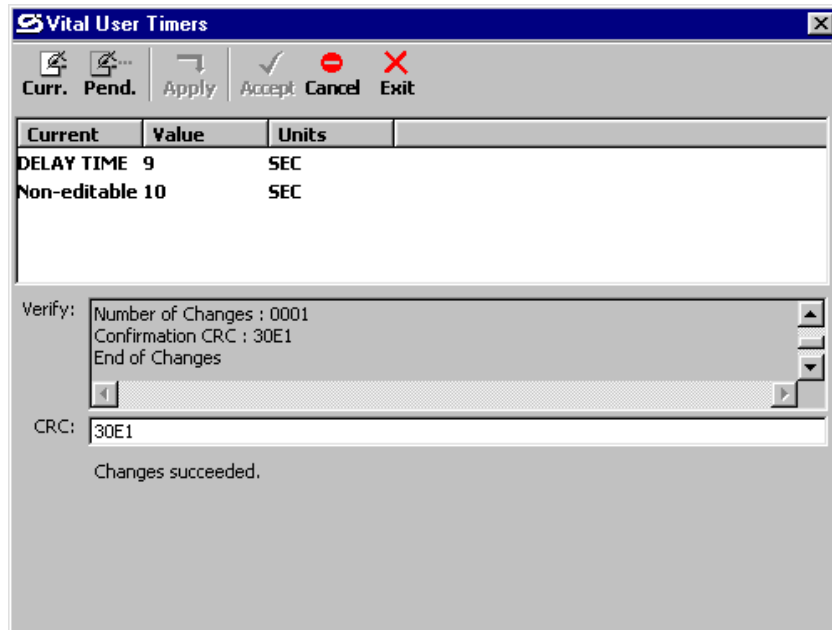

Figure 3-57
12. Click on the **Accept** button at the top of the display to finalize the changes. After the changes are accepted, the phrase “Changes succeeded” appears below the CRC text box (see figure 3-57). Note that the **Accept** button has become inactive. The changes (pending) are now held internally by the GEO unit, but have not been applied and have not been enforced in the CIC.